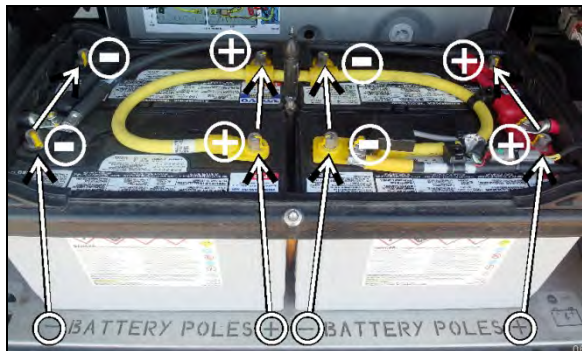

FIGURE 38: BATTERY BANK
1. To respect battery polarity in the arrangement, positive (+) and negative (-) signs are laser cut on the battery deck steel sheet. When installing the batteries, place the battery negative and positive poles according to the signs on the battery deck (*Figure 38*).